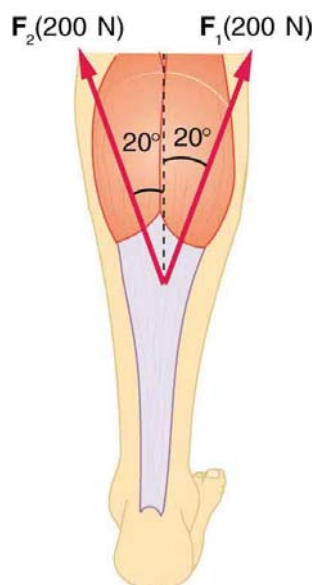

Figure 9.36 The Achilles tendon of the posterior leg serves to attach plantaris, gastrocnemius, and soleus muscles to calcaneus bone.
27. Two muscles in the back of the leg pull on the Achilles tendon as shown in **Figure 9.36**. What total force do they exert?